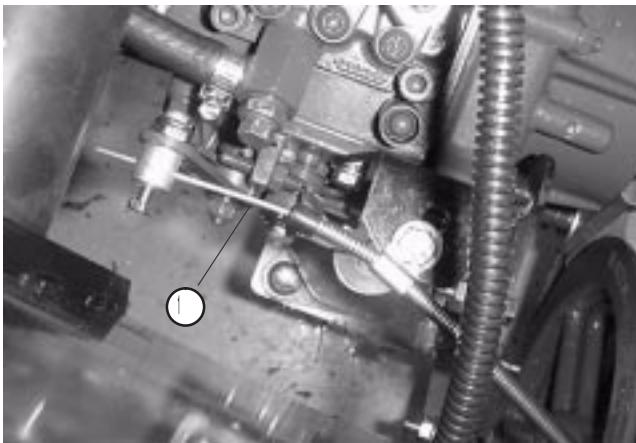

Figure 55
1. Adjust throttle cable (Fig. 55) so governor lever on engine contacts low and high speed set bolts before throttle lever contacts slot in control panel.